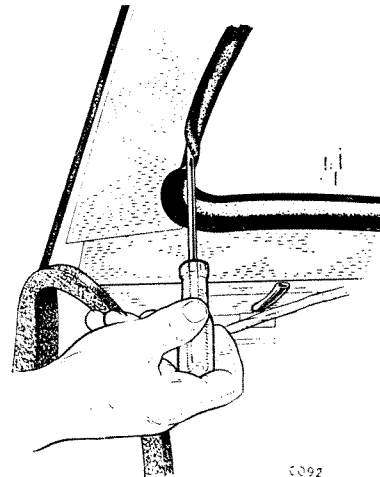
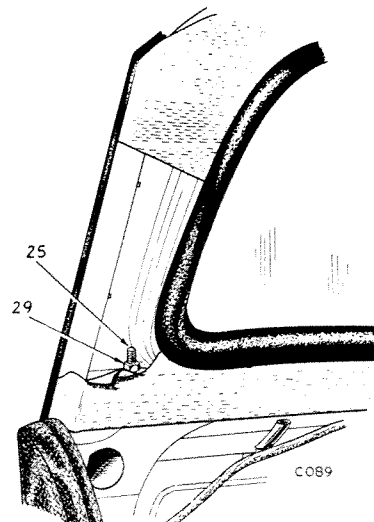

Fig. 23. Removing trim panel
Fig. 24. Backlight frame to body fixing
Using a screwdriver, as shown in Fig. 23, lift the edge of the backlight weatherstrip and remove the trim panels concealing the nuts (29) and studs (25) shown on Fig. 24.
Slacken the nut (29). The right-hand side nut is shown in Fig. 24.